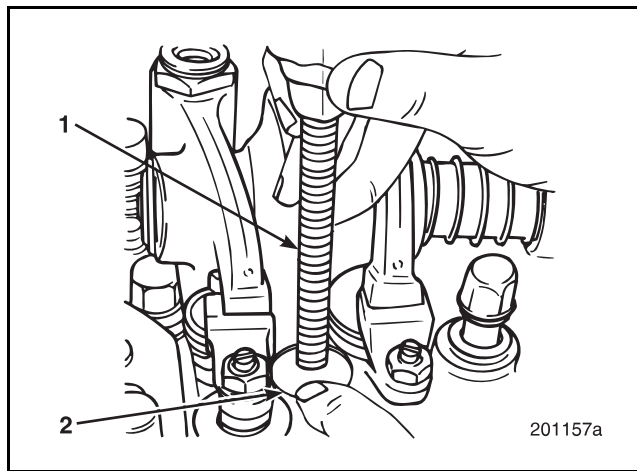

Figure 6-65 — Nozzle Holder Installation Check
7. Insert the gauge block into the nozzle holder hole. The gauge block should be flush with the top of the cylinder head surface. Refer to Figure 6-65.